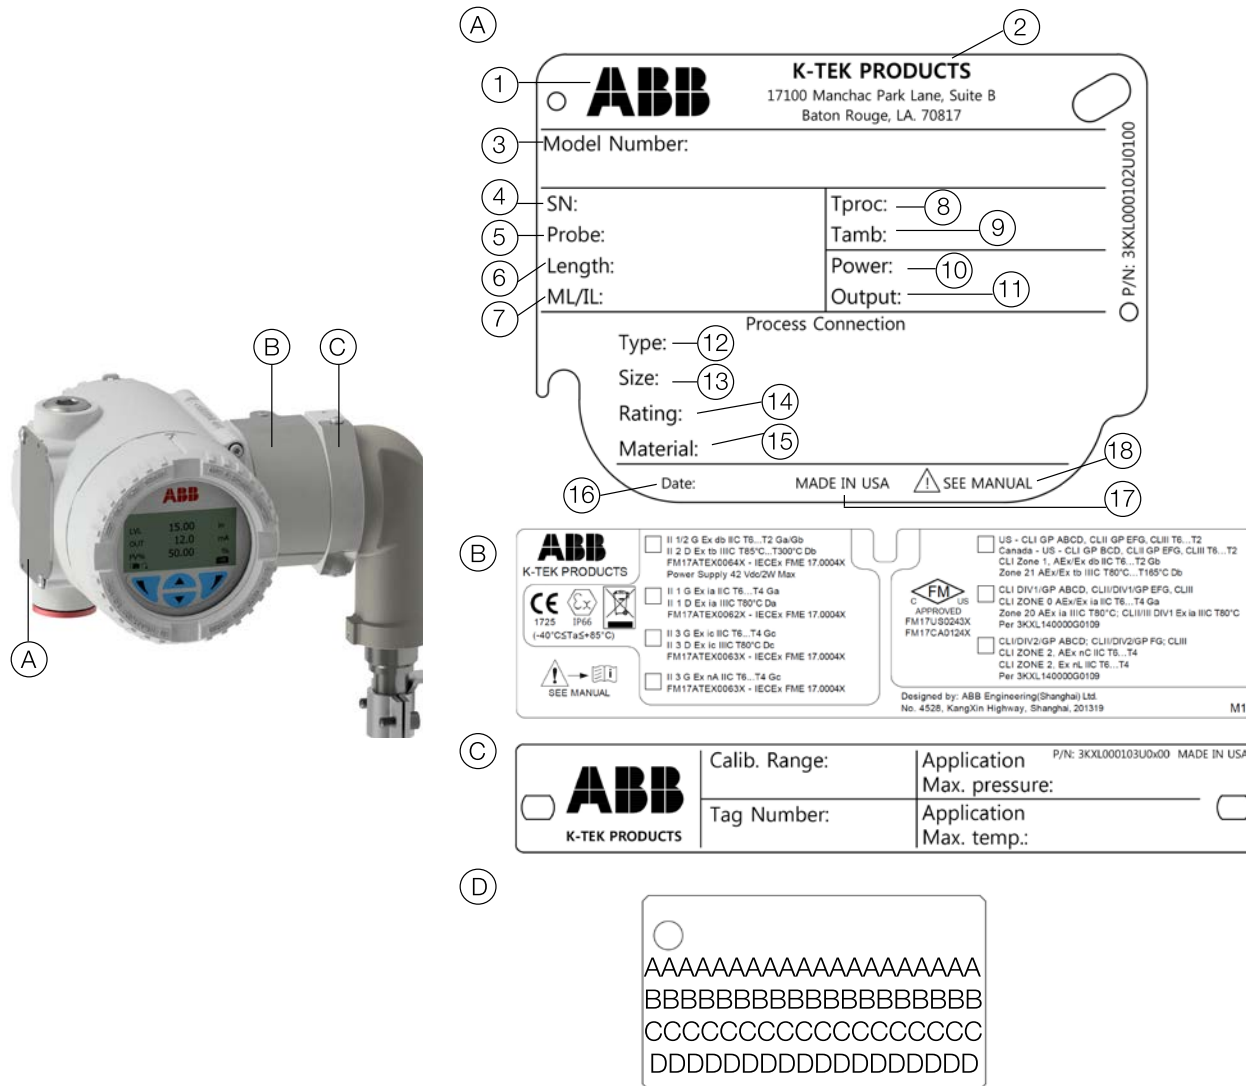

Figure 4 Identification Plates
The transmitter is identified by the name plates. (A) The nameplate provides information (see figure 4) concerning the model number, probe length, sensor material, process connection type, process connection material, maximum pressure ratings, power supply, output signal, serial number, maximum processed temperature limits and Maximum ambient temperature limits. (B) The certification plate contains the certification-related parameters for use in a hazardous area.
The LMT Series of transmitters can be supplied with an optional wired-on, stainless-steel plate (Figure 4, D). The plate is laserprinted with custom text, as specified by the user. The available space consists of 4 lines with 32 characters per line. The plate will be connected to the transmitter with a Stainless Steel wire.